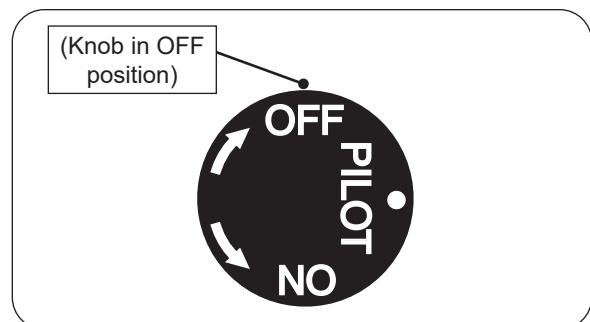

Fig. 23-2 Pilot shut down
2. Locate the valve on the side of the unit. Push in the gas control knob slightly and turn clockwise to **OFF** (see Fig. 23-2).
Push in the control knob slightly and turn clockwise to **OFF**. Do not force. See Fig. 23-2.